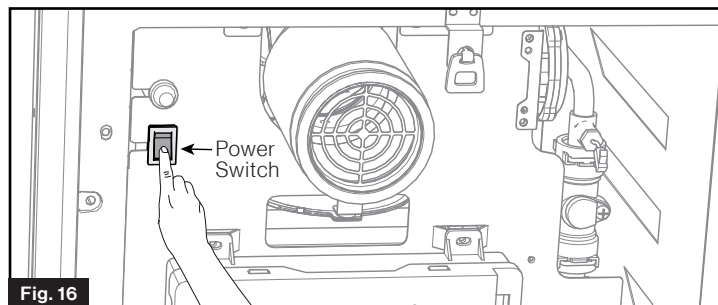

Fig. 16
1. Set the power switch (Fig. 16) in front of the water heater to the "OFF" position.
1. Verify the power switch on the water heater is in the "OFF" position. (Fig. 16)